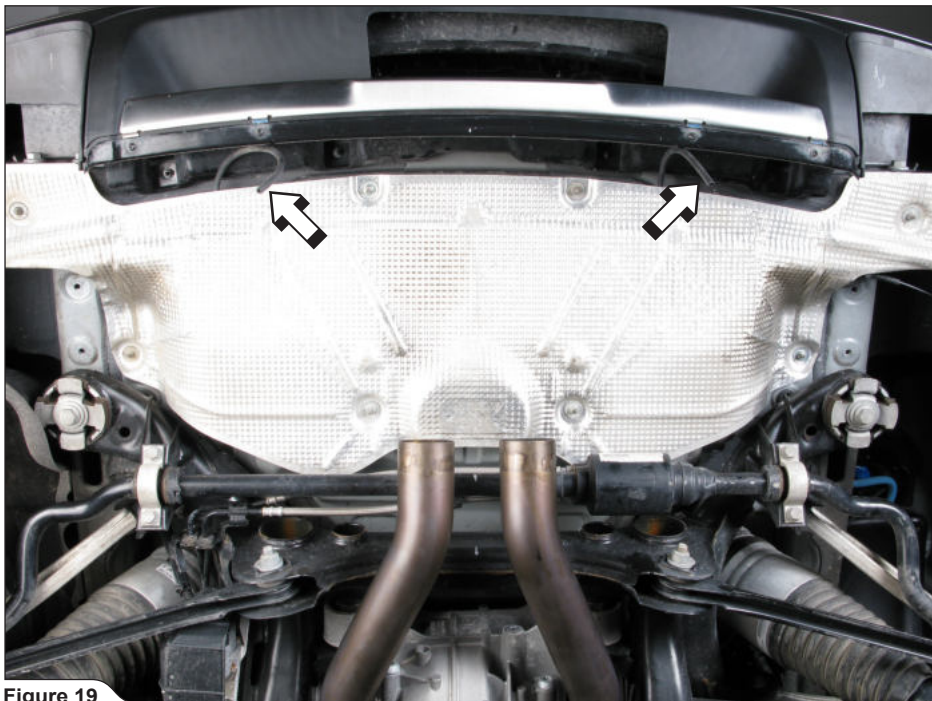

Figure 19
15. Reinstall the heat shield; adjust the vacuum hoses as shown (Figure 19).